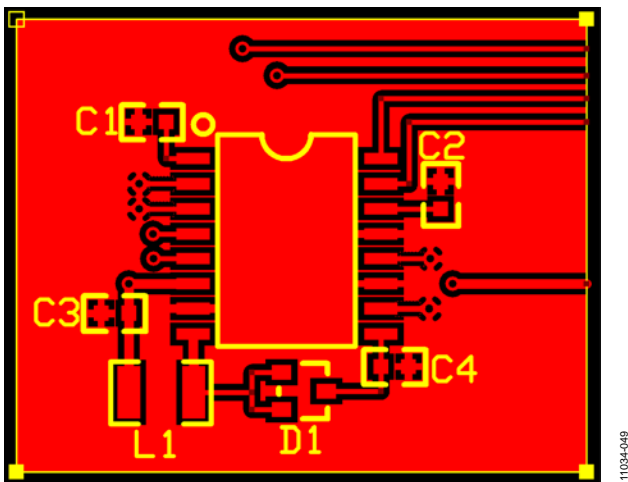
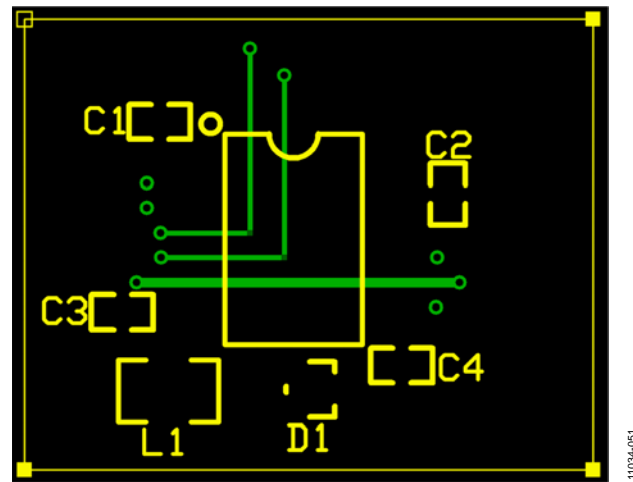
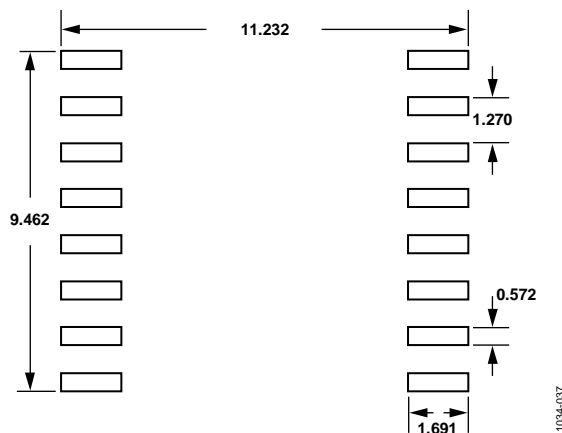

Figure 22. SOIC PCB Layout Top Layer Metal
Figure 23. SOIC PCB Layout Bottom Layer Metal
Figure 24. Sample SOIC Solder Pad Layout (Land Pattern);
Figure 22 and Figure 23 show a suggested board layout for the SOIC package, and Figure 24 shows a sample solder pad layout. The board layout is intended for a 2-layer PCB design. While this exact layout need not be followed, the user should adhere to the following guidelines:
- Figure 22 and Figure 23 show the use of a top-layer metal GND plane for all GND connections. The use of a power plane is not recommended.
- For the SOIC package, it is not recommended to route the SPI interface traces under the device without proper shielding, such as a filled ground plane (used in Figure 22 and Figure 23).